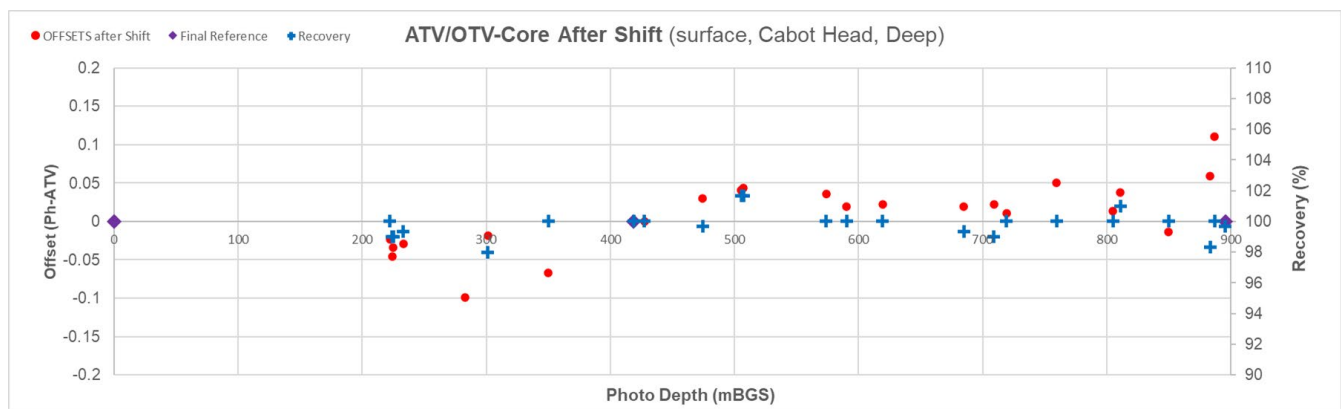

Figure 5 Core to ATV Offset after Depth Adjustment
3. After depth adjustments were completed based on these two features, the overall accuracy of alignment between stretched ATV and core photos was completed. In total, an additional twenty-three other distinct, unambiguous bedding surfaces and fractures were identified along the entire borehole length in the both the core photos and the ATV image and were compared. Figure 5 shows the offsets observed between these features in core photos and the ATV images plotted against depth (mBGS) as well as the percent recovery for the specific core run in question. Overall, the offsets are shown to be within +/- 10 cm and were considered to be acceptable.